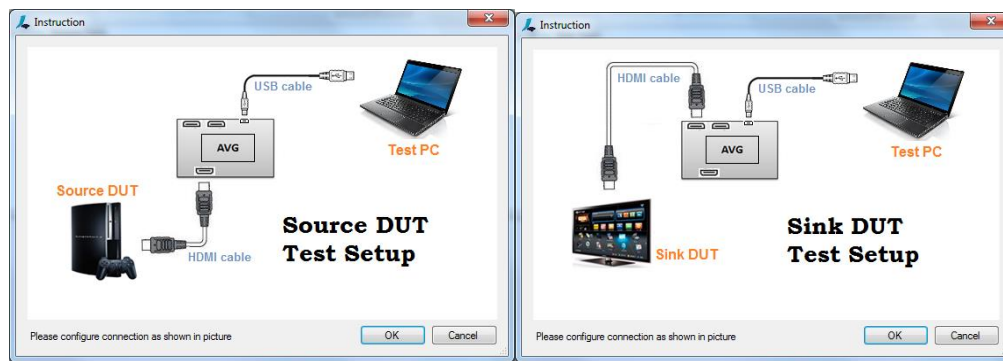

Figure 4.3. Instruction Dialogs
5. A dialog pops up (Figure 4.3) asking you to connect the source or sink device to the test computer. After the connections are set up, click OK.